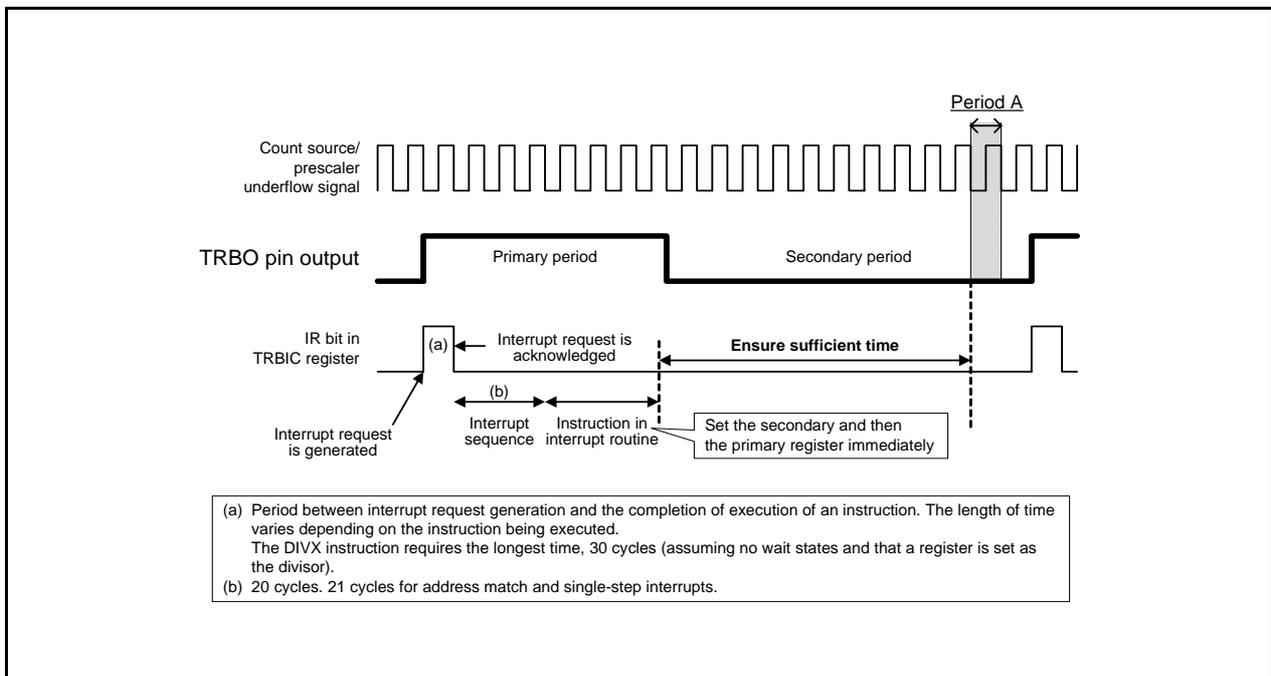

Figure 14.25 Workaround Example (a) When Timer RB Interrupt is Used
- (1) To write to registers TRBPRE and TRBPR during count operation (TCSTF bit is set to 1), note the following points:
- (2) To change registers TRBPRE and TRBPR during count operation (TCSTF bit is set to 1), synchronize the TRBO output cycle using a timer RB interrupt, etc. This operation should be performed only once in the same output cycle. Also, make sure that writing to the TRBPR register does not occur during period A shown in Figures 14.25 and 14.26.
As shown in Figure 14.25, write to registers TRBSC and TRBPR in the timer RB interrupt routine. These write operations must be completed by the beginning of period A.